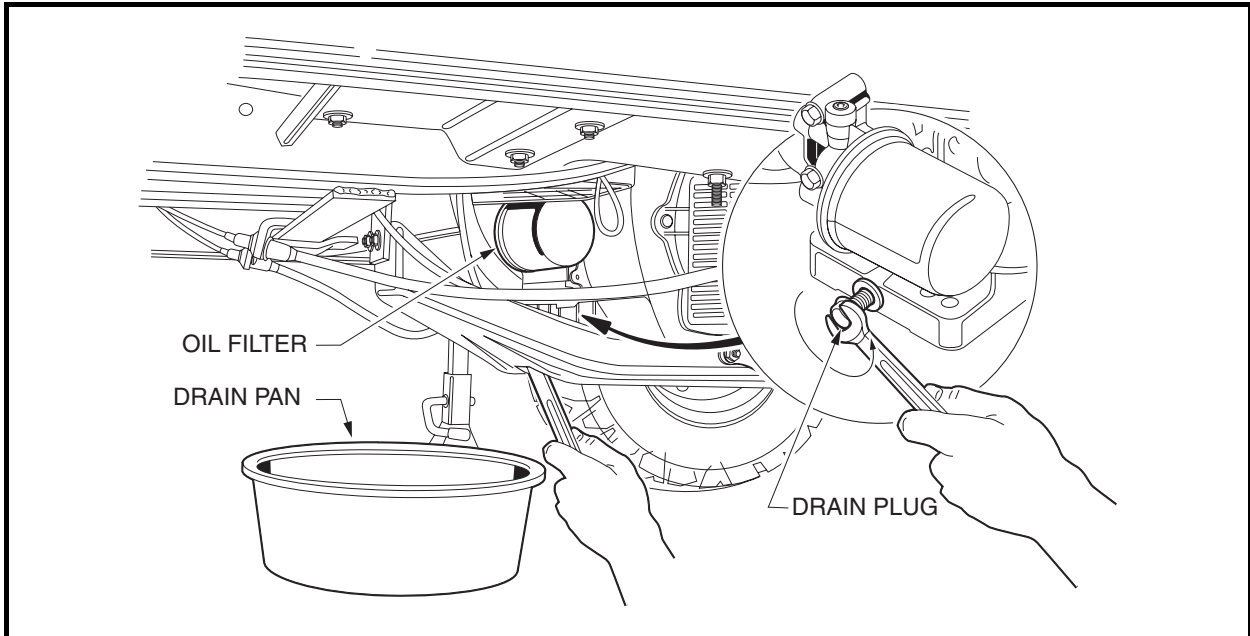

Figure 18 Engine Oil Drain Plug and Pan
5. Position a pan designed for oil changes under the front drain plug (**Figure 18**).
10. Relocate the oil drain pan to a position under the engine oil filter (**Figure 18**).